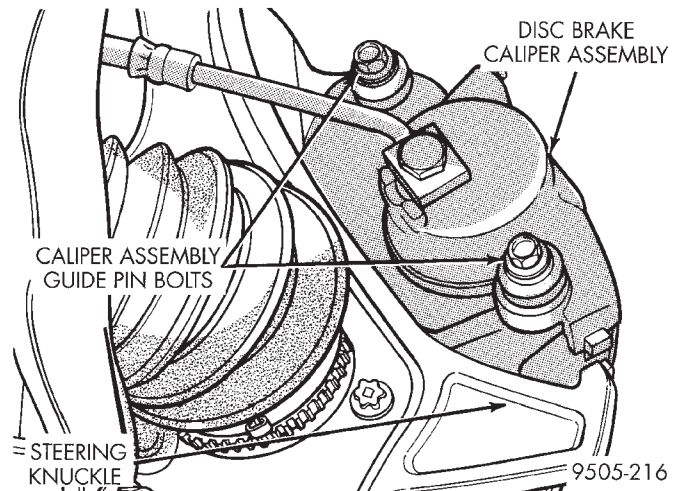
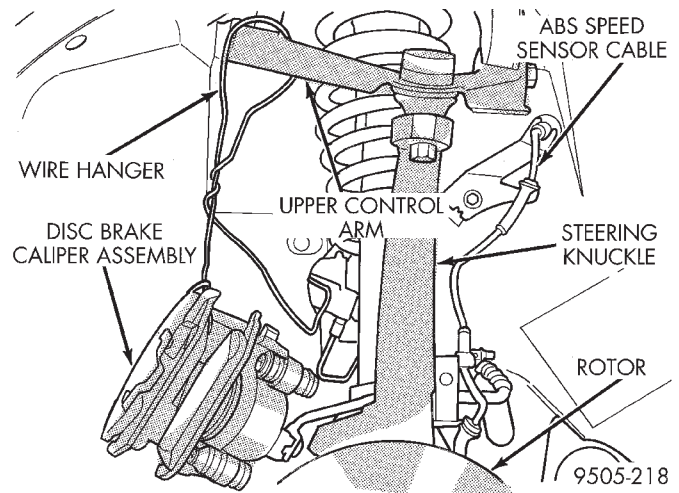

Fig. 51 Disc Brake Caliper Mounting
Fig. 52 Stored Disc Brake Caliper
(4) Remove the 2 bolts attaching the disc brake caliper to the steering knuckle (Fig. 51). Remove the disc brake caliper from the steering knuckle. Using wire or an equivalent, hang caliper from upper control arm so weight of caliper is not supported by the brake flex hose (Fig. 52).
(13) Install disc brake caliper on steering knuckle. Install and tighten the disc brake caliper mounting bolts (Fig. 51) to a torque of 22 N·m (16 ft. lbs.).
(14) Install wheel and tire assembly.
(15) Tighten the wheel mounting stud nuts in proper sequence until all nuts are torqued to half specification. Then repeat the tightening sequence to the full specified torque of 129 N·m (95 ft. lbs.).
(16) Remove jack stand from under lower control arm and lower vehicle to the ground.
(17) Check the vehicles alignment specifications and set front Toe to preferred specifications.